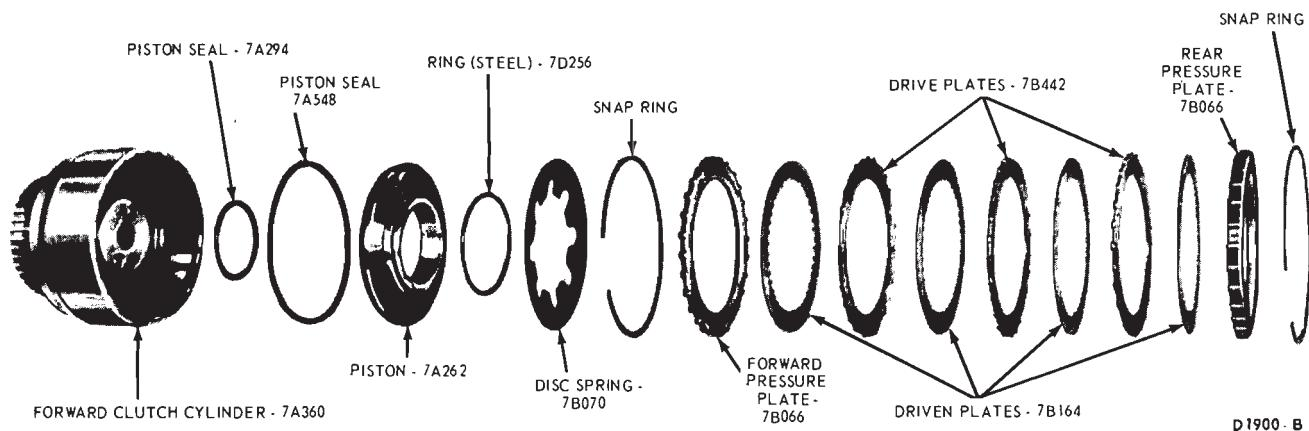

FIG. 82—Forward Clutch Disassembled
2. Remove the pressure plate, and the drive and driven clutch plates from the clutch hub (Fig. 82).
5. Remove the clutch piston outer seal and the inner seal from the clutch hub (Fig. 82).
2. Install the clutch piston into the clutch hub. Install the disc spring and retaining snap ring (Fig. 82).
4. Install the pressure plate retaining snap ring (Fig. 82). Make sure the snap ring is fully seated in the ring groove of the clutch hub.